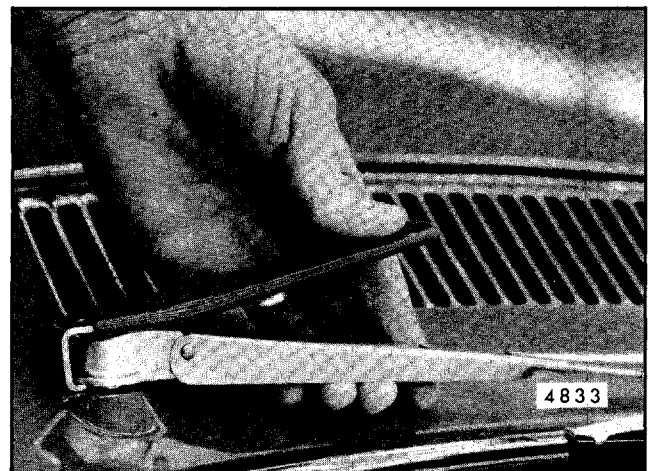

Fig. 2-29-Wiper Arm Removal Tool J-8966 (or Equivalent)
1. To remove the wiper arm and blade assemblies use tool J- 8966 or equivalent to minimize the possibility of windshield or paint finish damage during removal operation (Fig. 2-29).